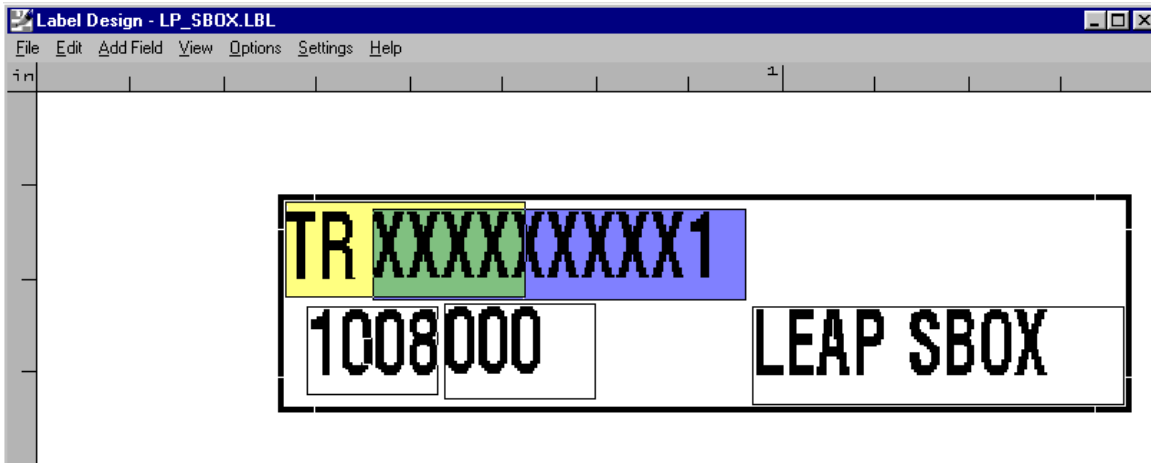

Figure 1-10
1.18. Click and drag your cursor from the upper left corner of the label to the lower right corner and then release the mouse button. All the fields on the label will be selected (enclosed in thin-lined boxes) and a large box will enclose them all. (Figure 1-10)
1.18.1. Look carefully at the fields in Figure 1-10. Notice how the yellow field and the blue field overlap in the green area. This is a problem that needs to be corrected. You will need to correct this problem wherever you find it.